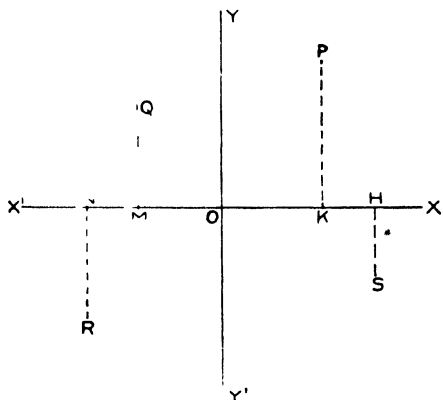

Fig. 3.
8. For the purpose of definitely locating every point in a plane we draw two lines XX' and YY' at right angles to each other, as shown in Fig. 3. These lines are known as axes of reference; O , the point of intersection, is known as the origin.